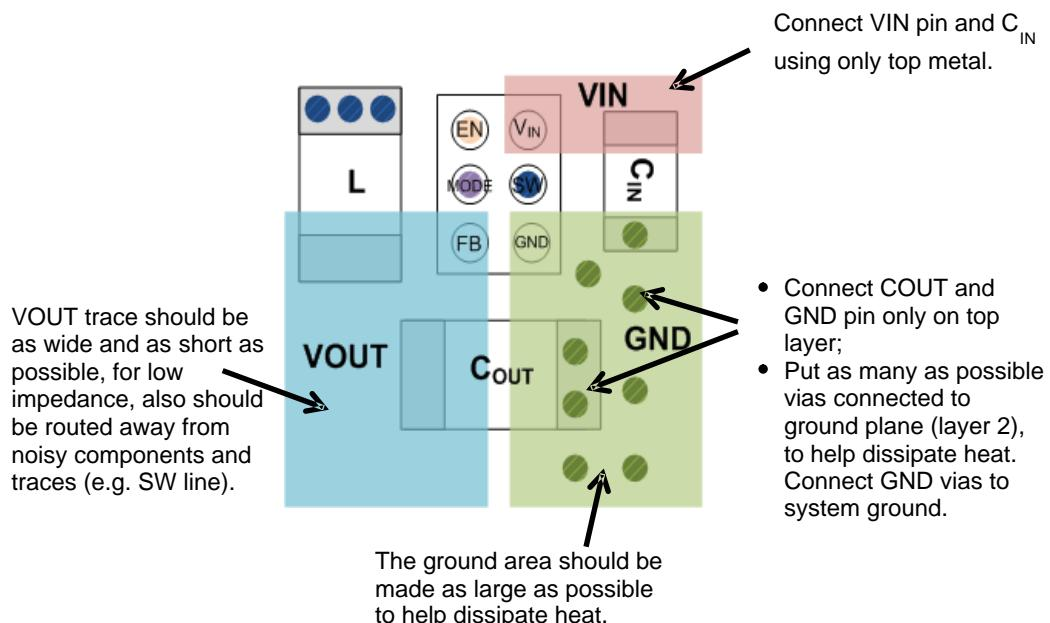

Figure 26. Top Layer
1. The input capacitor ( $C_{IN}$ ) should be connected as close as possible to the  $V_{IN}$  and  $GND$  pins. Connect to  $V_{IN}$  and  $GND$  using only top metal. Do not route through vias (see Figure 26.)